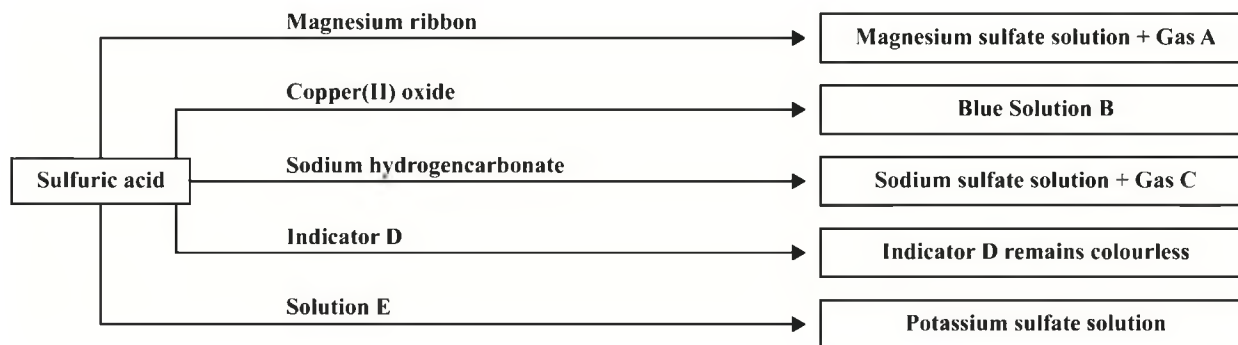

Figure 2. Some reactions of dilute sulfuric acid.
4. (a) Figure 2 shows some reactions of dilute sulfuric acid. Use the figure to answer the questions which follow.